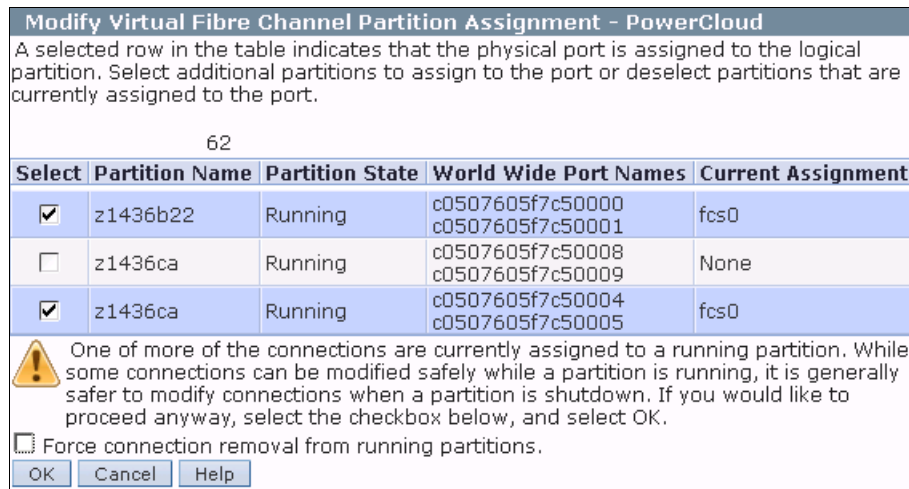

Figure 3-16 Modifying virtual Fibre Channel assignments
4. Figure 3-16 shows the active connections for the host bus adapter port fcs0. The connections can be modified by selecting and clearing the check boxes. Click **OK** to save the changes.